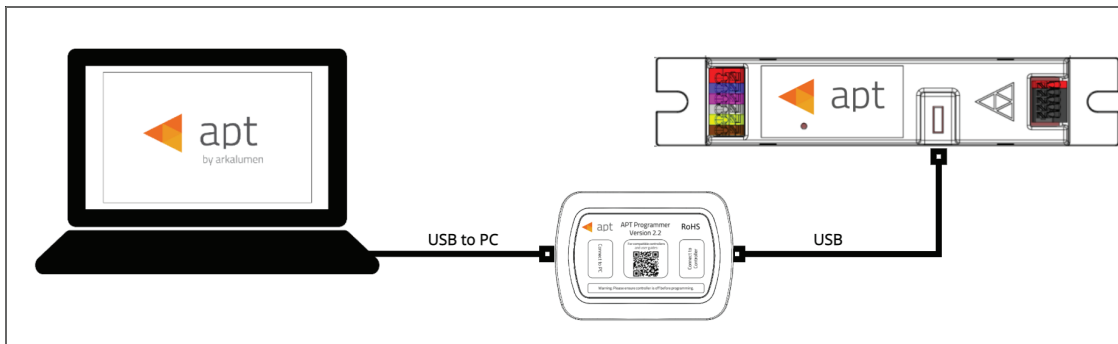

Figure 1: Wiring Diagram
- 1 Connect the APT Programmer to the PC and controller as shown in Figure 1.